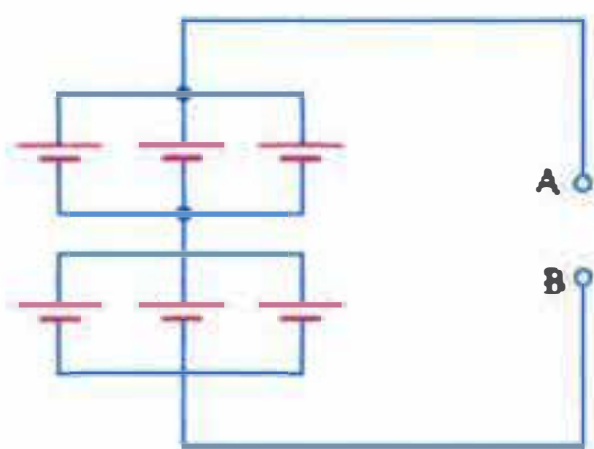

Fig. 1.19
- What would be the voltage across points A and B in seriesparallel combination of Fig. 1.19 if each cell has a voltage of 1.5 V ? [3 V]